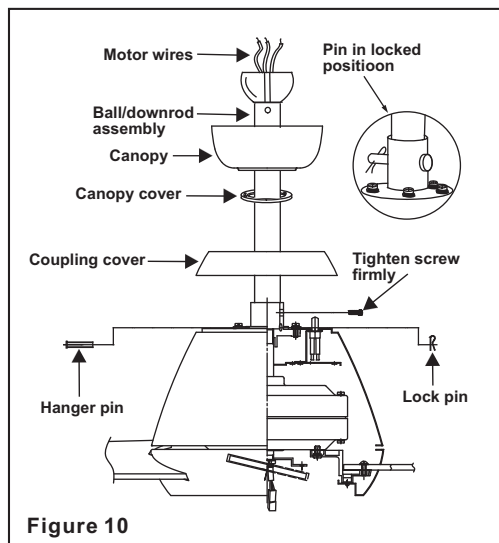

Figure 10
Step 6. Route wires exiting from the top of the fan motor through the coupling cover, canopy cover, canopy and then through the ball / downrod. (Fig. 10)
Step 7. Align the holes at the bottom of the downrod with the holes in the collar on top of the motor housing (Fig. 10). Carefully insert the hanger pin through the holes in the collar and downrod. Be careful not to jam the pin against the wiring inside the downrod. Insert the locking pin through the hole near the end of the hanger pin until it snaps into its locked position, as noted in the circle inset of Fig. 10.
Step 8. Tighten two set screws on top of the fan motor firmly. (Figure 10)